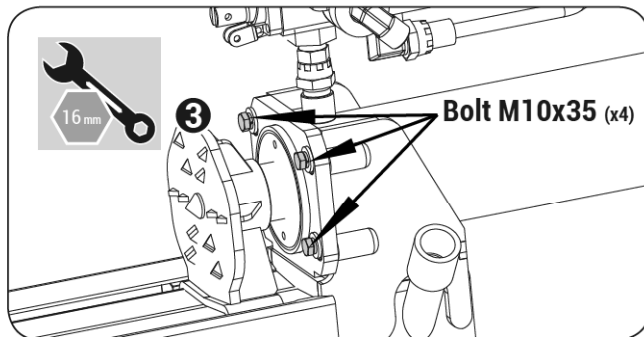

Figure 6
3. Tighten the M10x35 bolts. (See **Figure 6**)